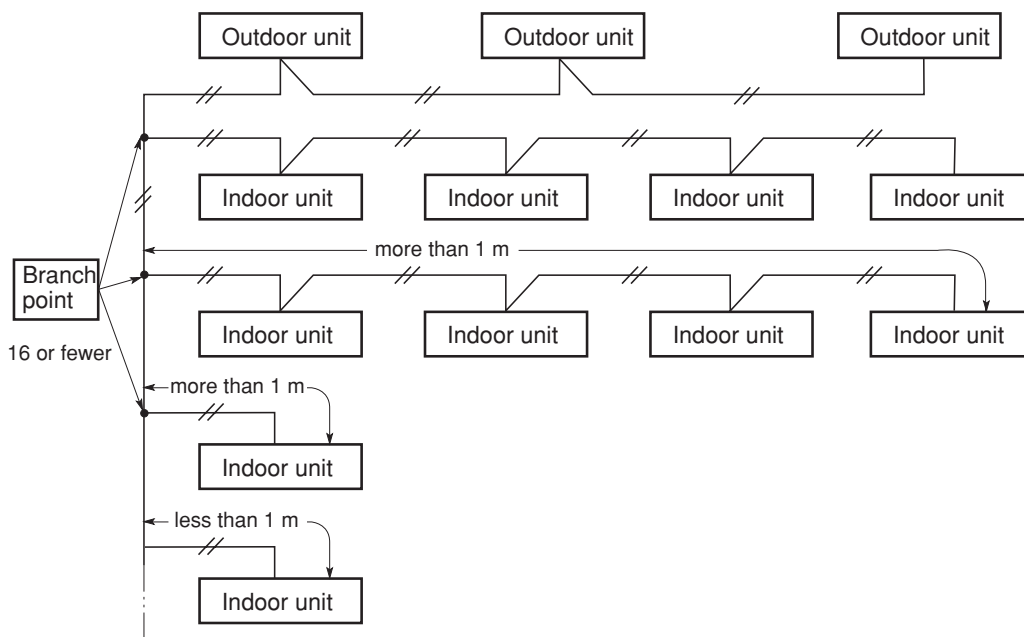

Fig. 4-3
- (4) If branching the inter-unit control wiring, the number of branch points should be 16 or fewer. (Branches less than 1 m are not included in the total branch number.) (Fig. 4-3)